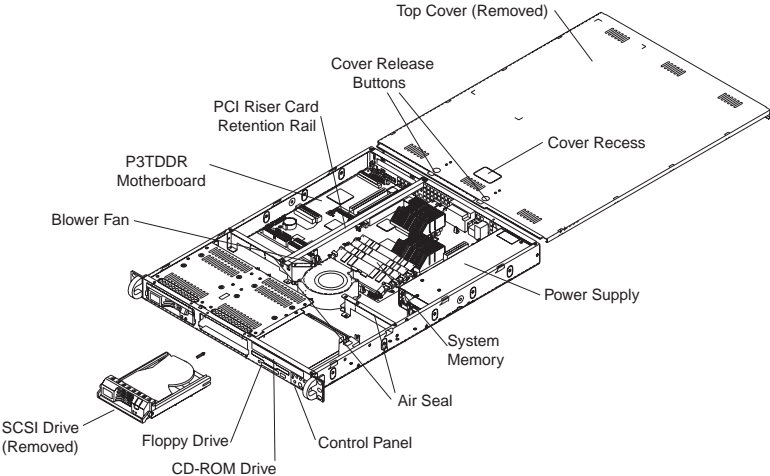

Figure 2-5. Accessing the Inside of the SuperServer 6011D (with one SCSI Drive removed)
1. Accessing the inside of the 6011D (see Figure 2-5):